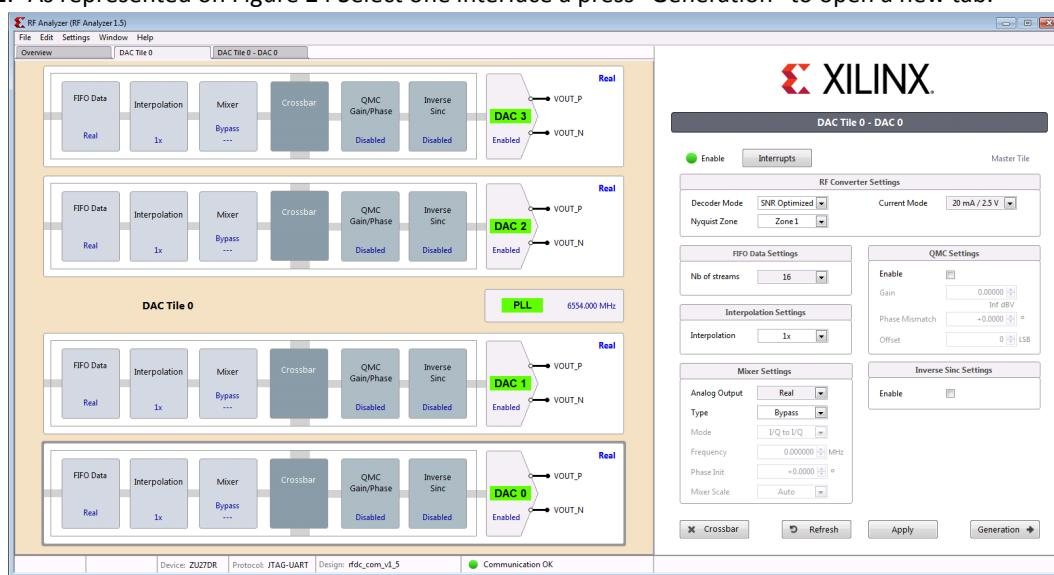

Figure 24. DAC Tile interface
12. As represented on Figure 24 Select one interface a press “Generation” to open a new tab.